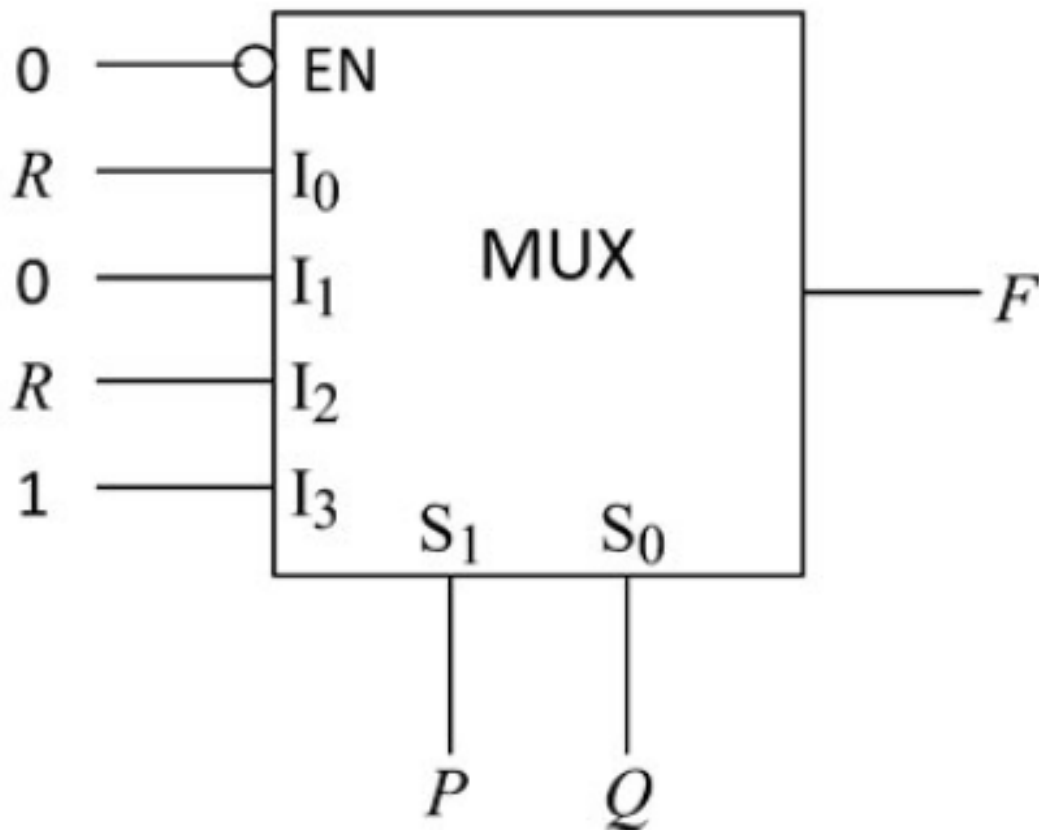

Figure 4.9:
14. Fig. 4.9 below shows a multiplexer where S0 and S1 are the select lines, I0 to I3 are the input lines, EN is the enable line and F(P,Q,R) is the output. Find the boolean